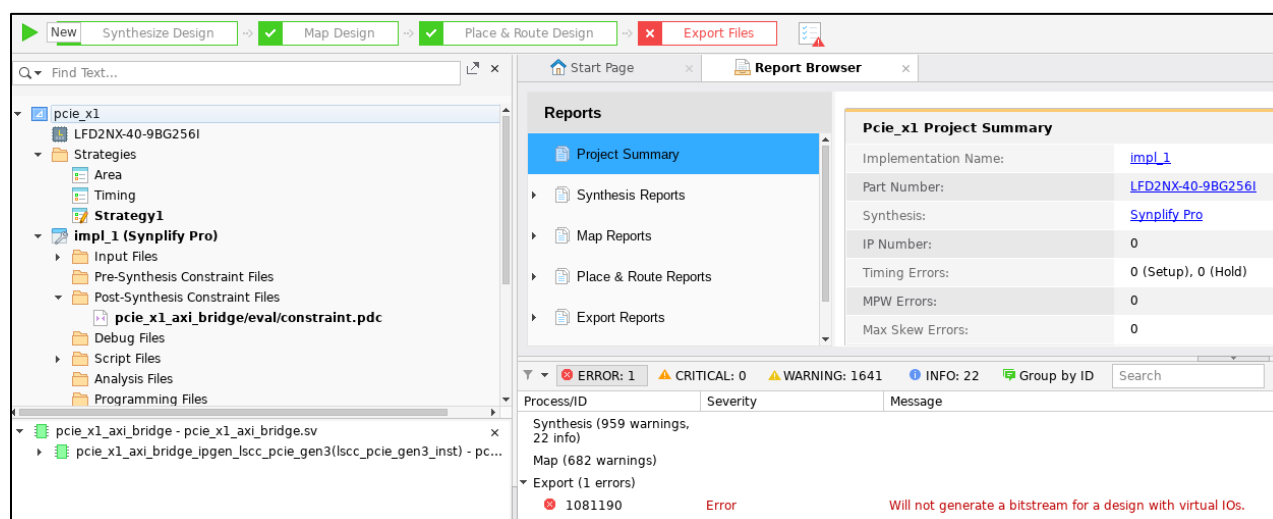

Figure 7.10. Project Compilation
- Successful compilation is shown in Figure 7.10. As the IP level compile involves virtual I/O, the bitstream cannot be generated. For bitstream generation, refer to the Example Design section.